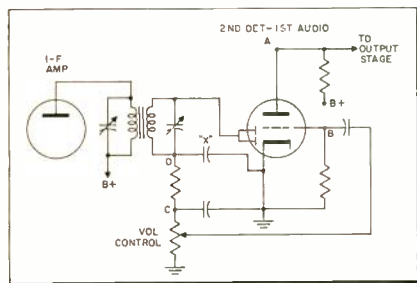
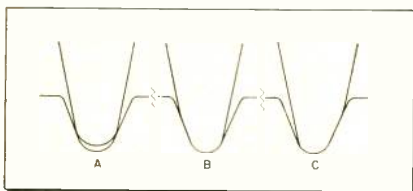

Fig. 1—I-f and second-detector circuit of 5-tube ac-dc receiver. Intermittent open-circuiting of condenser "X" resulted in fading.
Fig. 1A—Stylus properly seated in groove, providing good tracking. B, C—Improper seating.
Fig. 1A—The horseshoe comprises all the visible colors; the triangle includes all colors reproducible in color TV. Colors shown in this triangle are recognizable to the eye when they cover large areas. B—When medium-small areas are viewed, blues and yellows appear gray, and only cyan and orange are clearly distinct. Two areas rather than one are shown as gray. This is so because yellow and purple—the colors really present in these areas—will look gray if the observer's distance from them is great enough. C—The eye cannot distinguish between colors and black-and-white when small objects are viewed; only intensity variations—referred to as varying shades of gray—are visible.
The eye cannot see color—i.e., distinguish between colors or black-and-white—when the object inspected is very small (see Fig. 1C). The eye has "three-color" vision, on the other hand, for large objects (Fig. 1A). "Three-color vision" means that we can, by mixing lights of three colors in the proper amount, cause the eye to see practically any color. This duplication is called color matching.
colors in Fig. 1 are grouped in a horse-shoe form. The theory behind this may be summarized as follows:
Color is subjective—that is, different people give different names to the same shade of color. In addition, colors look different when their surrounding color is changed. White is a wide area (in Fig. 1) because desaturated shades of any color (i.e., color mixed with white) will look white if looked at for some time without comparison. This is the reason, incidentally, that the shade of white used on a black-and-white crt screen turned out to be much less important than originally expected; only when a number of b & w sets are put next to each other does the difference in screen whiteness become apparent.
A final note on the horse-shoe patterns of Fig. 1: There are actually no sharp divisions between colors, such as those that seem to be present in these sketches. Different
people will place the dividing lines between colors at different points. The colors in Fig. 1A are most saturated (i.e., intense) on the rim of the horse-shoe; these intensities are largely beyond the range of the present-day TV color system. The dotted-line area in the white section will be seen as white, or white with a hue of the adjacent color added, depending on the vision characteristic of the viewer.
The output of this 5-tube set dropped just enough to be annoying several times during a program, cutting in and out with a volume change of 15 or 20%. After trying all new tubes and making other tests, the trouble was finally narrowed down to the second i-f and detector circuits illustrated in Fig. 1.
The writer finally concluded that the small capacitor marked "X" in Fig. 1 (a 50 mmfd unit) was opening and closing periodically. With the scope disconnected and the capacitor open, the i-f signal was not sufficiently bypassed, causing the audio output to drop. With the scope connected, however, the 75 mmfd capacitance of the latter's input cable was more than sufficient to substitute for capacitor "X" in the
the record's grooves. Fig. 1 illustrates proper and improper tracking. Fig. 1A shows the needle properly tracking the groove; it is seated firmly, applying equal pressure to both sidewalls of the groove, and follows the lateral deviation of the groove with fidelity. Providing that the stylus itself is in good condition, poor tracking, as shown in B and C of Fig. 1, can be caused by poor tangency, binding, and improper turntable leveling.
**Tangency.** The needle shown in Fig. 1A is properly seated only when it is in line with the tangent of the groove in which it is riding. In other words, if a line is drawn from the pivot point at the base of the tone arm to the stylus tip (see Fig. 2), the needle is properly seated only when this imaginary line is at right angles to a radius of the record.